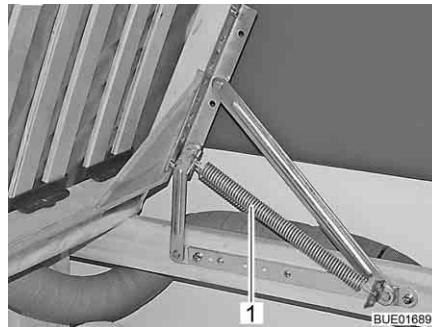

Fig. 76 Fixed bed
- Lift slatted frame. The springs (Fig. 76,1) hold the slatted frame open.